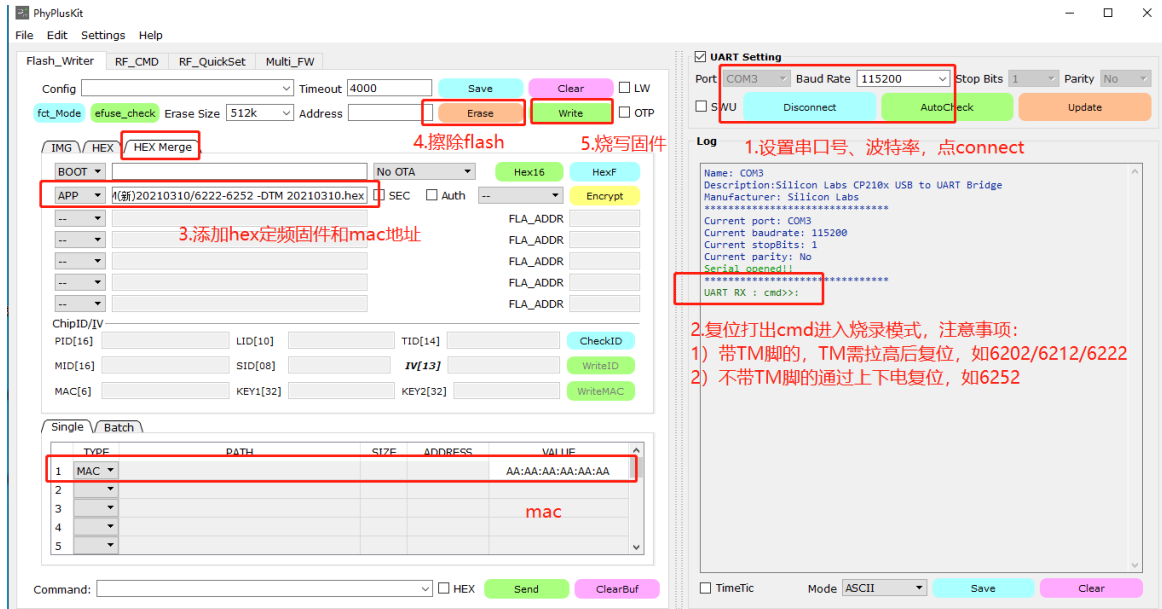
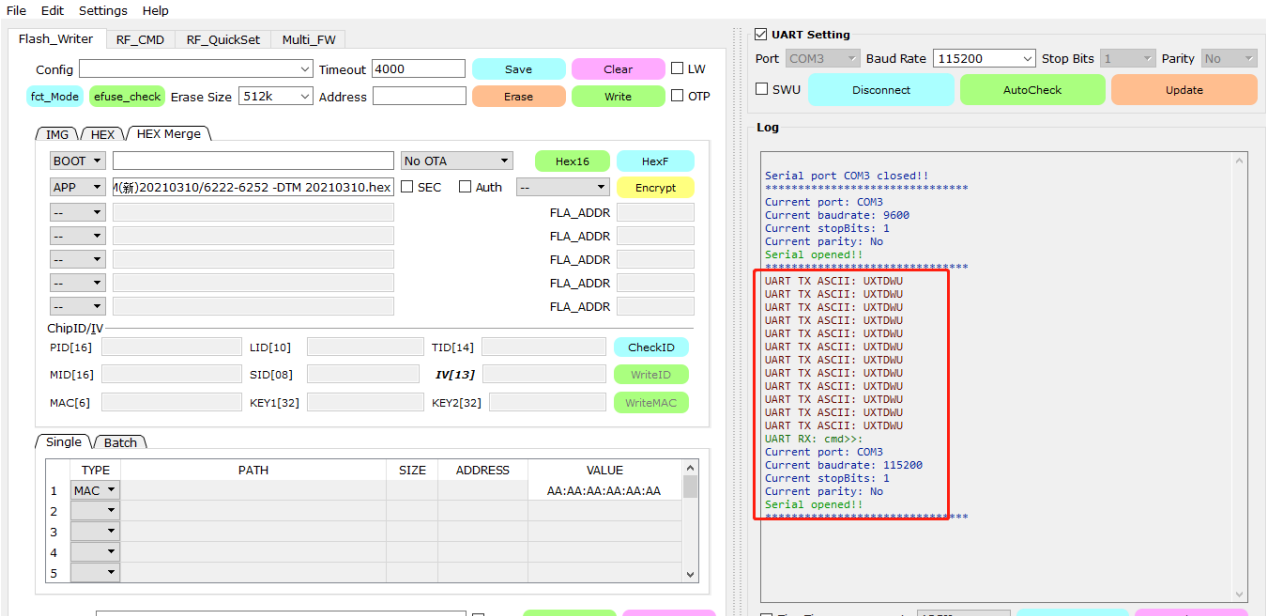

Figure 1
Figure 3
1.1. Connect the DUT (PRBMD0x) and the computer through the UART serial port, open the PhyPlusKit software, select the serial port to be connected as shown in Figure 1, and select the baud rate (115200 for the PHY6202/6212/6222 baud rate, UXTDWU for the PHY6252 baud rate), Click connect;
1.2. Set the DUT TM pin to high and press the reset key to display the green UART RX marked as 2 in Figure 1, cmd>>: Models without TM pins and reset pins (not PRBMD00 or PRBMD02), after setting the baud rate, click connect and enter the scanning state, directly reset the green UART by turning the power on and off the power line RX: cmd>> : , as shown in Figure 3;
1.3. Enter the Flash\_Write interface as shown in Figure 1, click the HEX Merge option, double-click the app bar, select the software to be burned, and enter the MAC address to be burned;